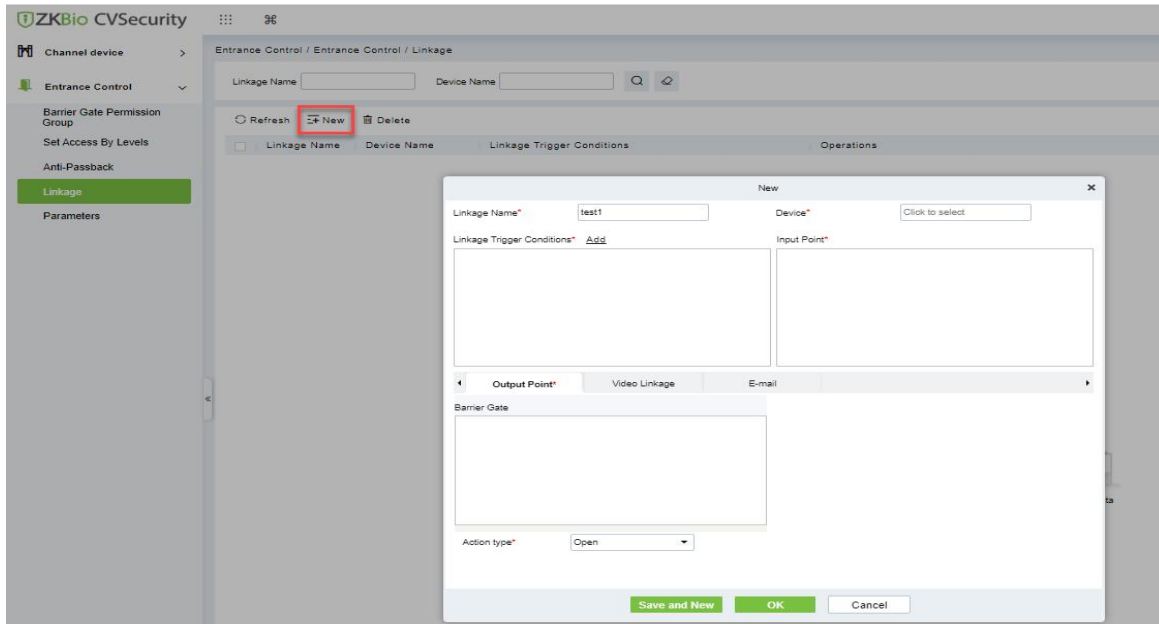

Figure 12-37 New Linkage Interface
Step 2: In the linkage setting interface, select and click the **New** button to fill in the corresponding parameters, as shown in Figure 12-37. Please refer to Table 12-4 for linkage parameters.